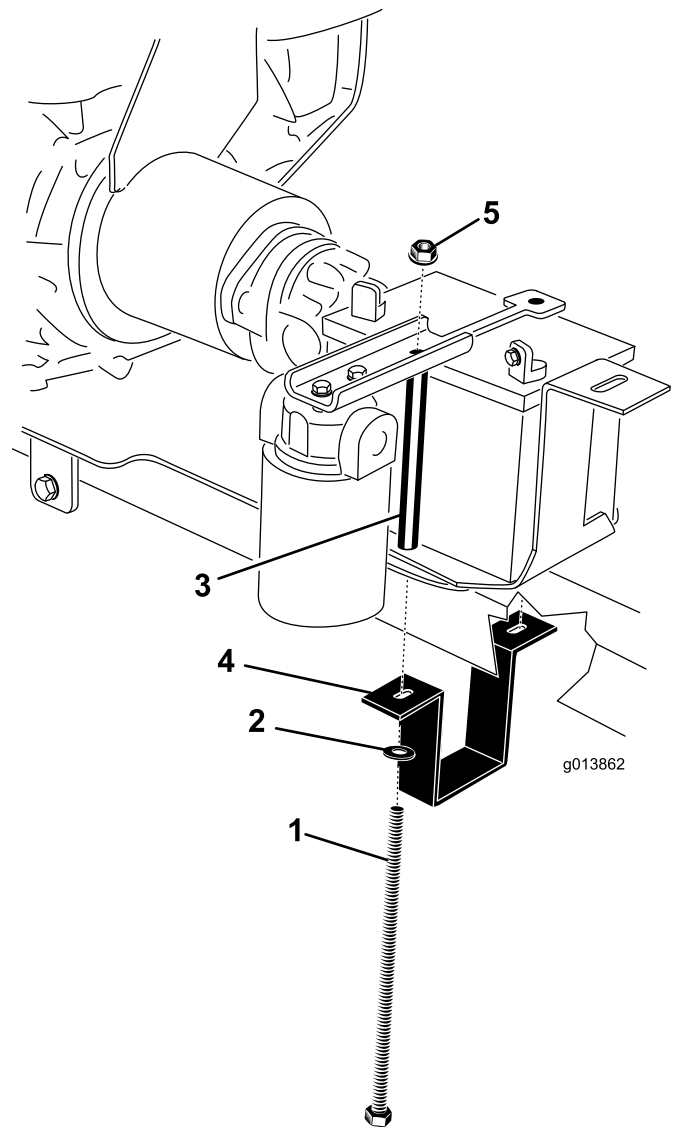

Figure 8
2. Mounting bolts (2)
21. Adjust the engine mount bracket so that it is tight to the hitch. Fully tighten the two bolts securing the engine mount brackets to the engine mounting plate (Figure 8).
22. Check that the engine mounting plate is level and fully tighten the (2) 1/2 x 5 inch bolts through the engine mount bracket lower holes.
23. Place the battery onto the battery tray, positioning the terminals as shown in Figure 8.
24. Position the battery hold down on the battery (Figure 8).
25. Hold the battery mount strap around the underside of the hitch tube (Figure 8).
26. On the right side, install a battery bolt through the washer, battery mount strap, engine mount plate, battery tray and hold down. Loosely install a flange nut (Figure 8).
27. On the left side, install a battery bolt through the washer, battery mount strap, engine mount plate, battery tray, battery bolt tube, and hold down. Loosely install a flange nut (Figure 8).